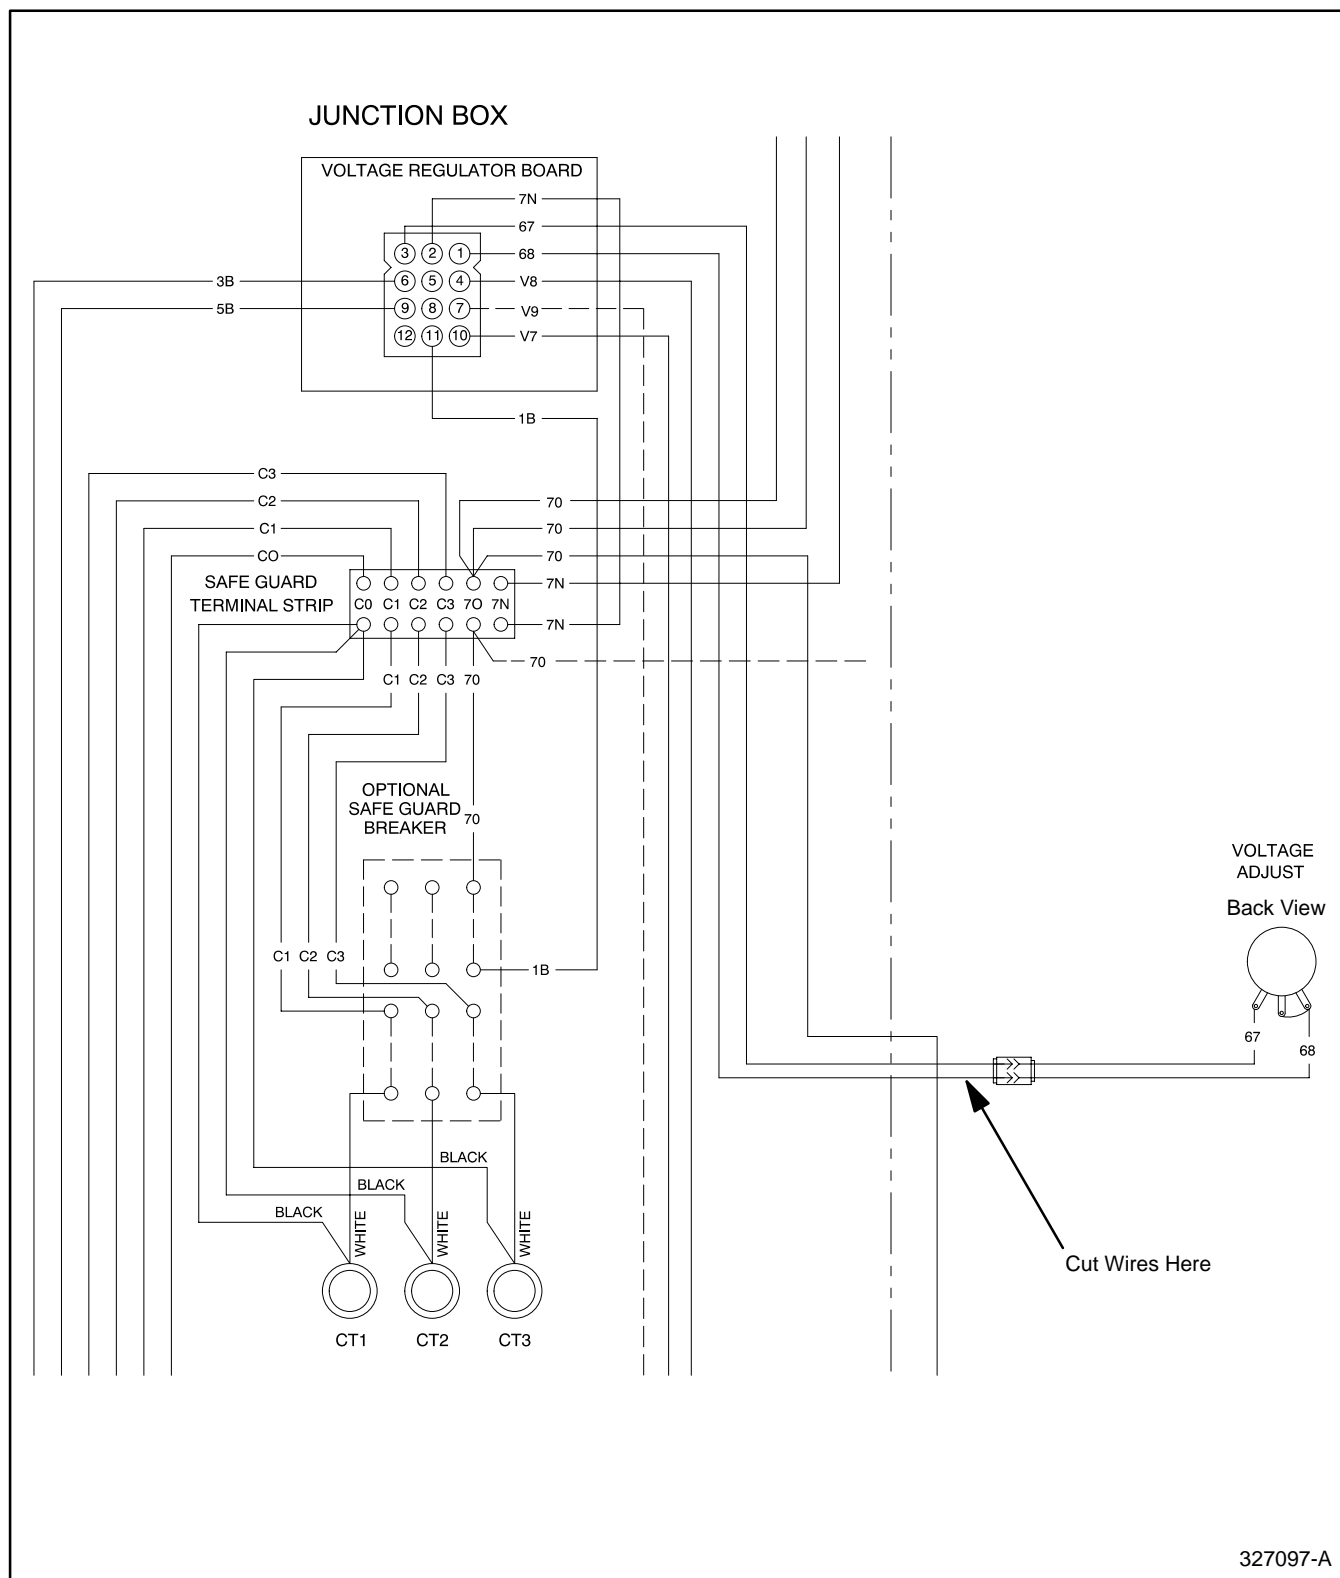

Figure 2. Disconnection of Controller Voltage Adjusting Potentiometer
- Connect remote potentiometer to leads (67 and 68) that run from the voltage regulator in the generator junction box to the voltage adjust potentiometer in the generator controller box at the point indicated in Figure 2. Tape to insulate the controller potentiometer leads.